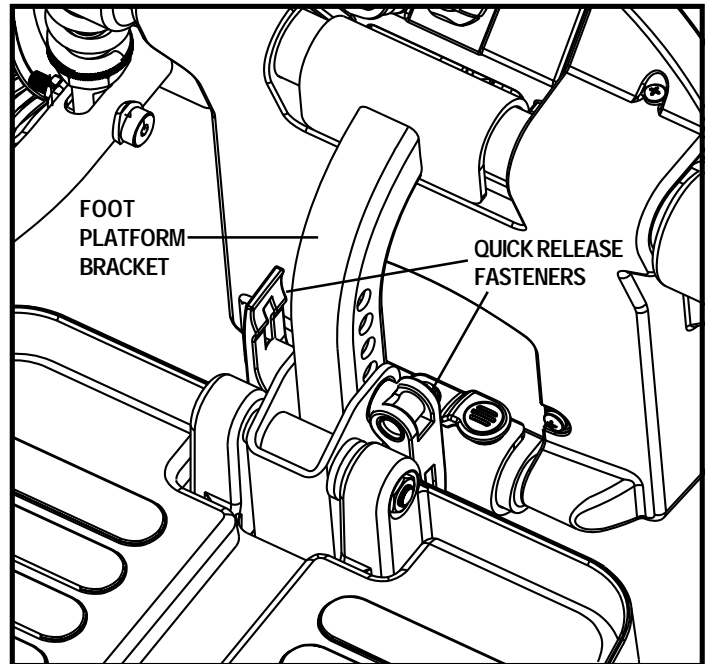
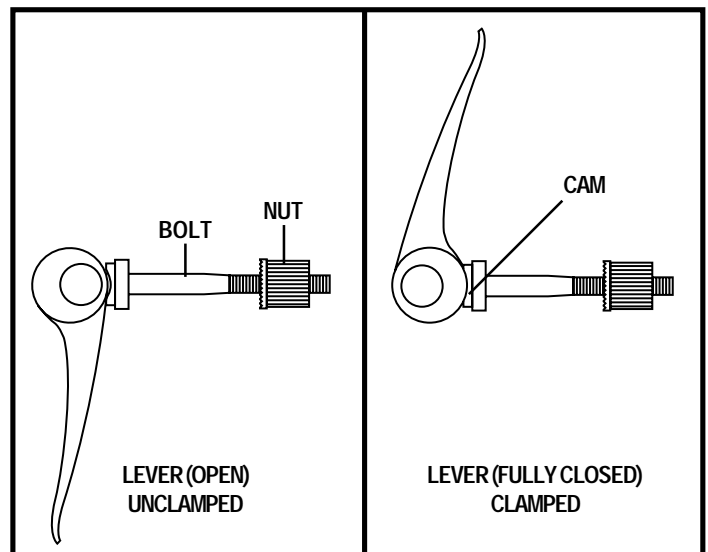

Figure 19. Foot Platform Adjustment
Figure 20. Quick Release Fastener Operation
1. Remove the quick release fasteners from the foot platform bracket. See figure 19.
The foot platform is attached to the power base with two quick release fasteners. See figure 19. Each quick release fastener consists of a bolt, a lever, and a nut. See figure 20. The lever has a cam on the end that allows it to clamp into place. The quick release fastener has two states: clamped and unclamped. When the lever is open, the quick release fastener is unclamped. When the lever is closed, the quick release fastener is clamped.